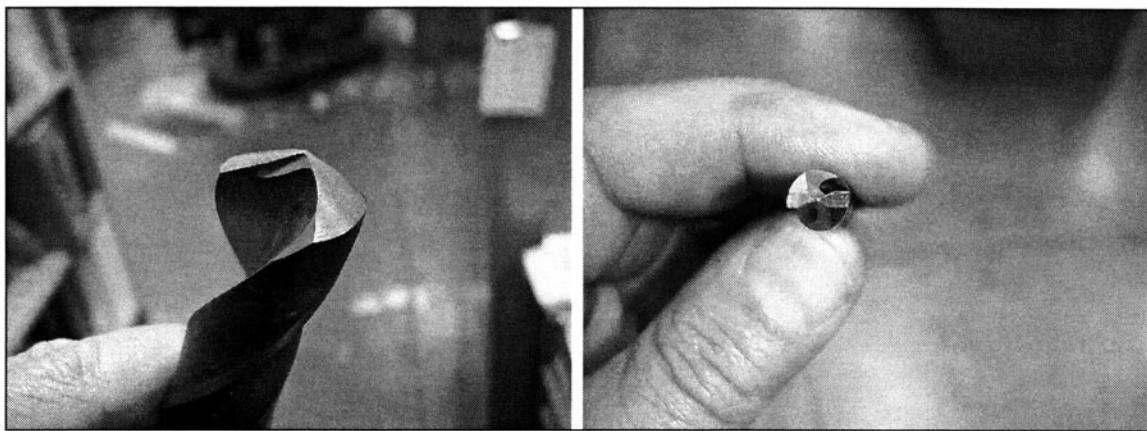

FIGURE 7-4 Web thinned drill bits cut with less pressure which helps maintain hole size.
5. *Web thin drill bits and center drills so they cut with less pressure. (See Fig. 7-4)*